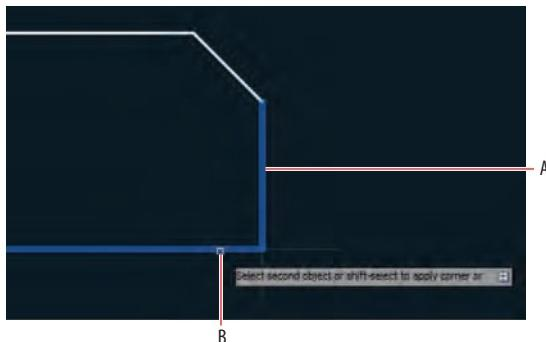

FIGURE 3.8 Filleting with a zero radius to form a corner
9. Type **F** (for Fillet) and press Enter. Verify that Radius is set to 0 in the Command window and then click the vertical and horizontal lines on the portions of the lines that you want to keep (marked A and B in Figure 3.8).